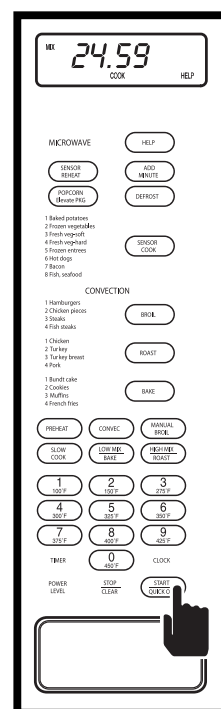

Figure 3-105.
3. Press **QUICK ON/START** key (See Figure 3-105).